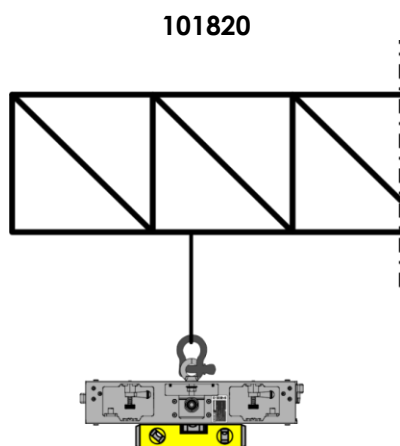
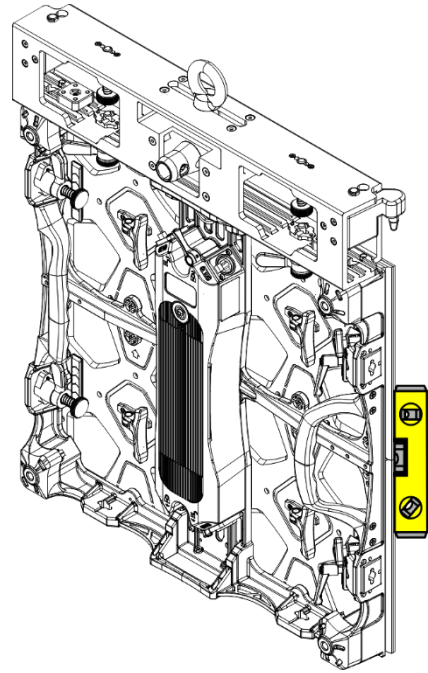
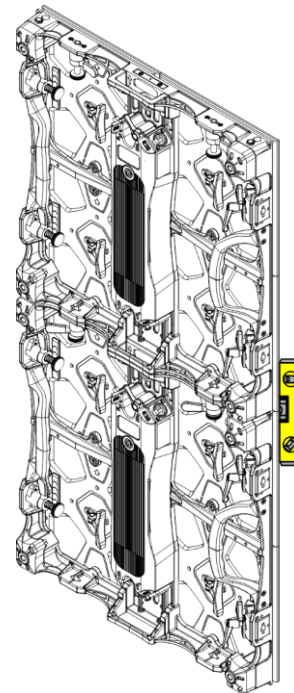

Fig. 15
Fig. 25
Fig. 45
Before you start the installation of the LED screens, make sure that the rigging bar setup is leveled, as shown in Fig. 15 and 16. For more information about leveling, see the user manual of the Single Rigging Bar/ Double Rigging Bar (101820/101821) (101820/101821).
07) Make sure that the setup is leveled, as shown in Fig. 25. To level the setup, see Fig. 15 and 16 on page 17.
- 07) Make sure that the LED screen is secured and leveled before you continue with the installation, as shown in Fig. 45. To level the setup, see Fig. 15 and 16 on page 17.